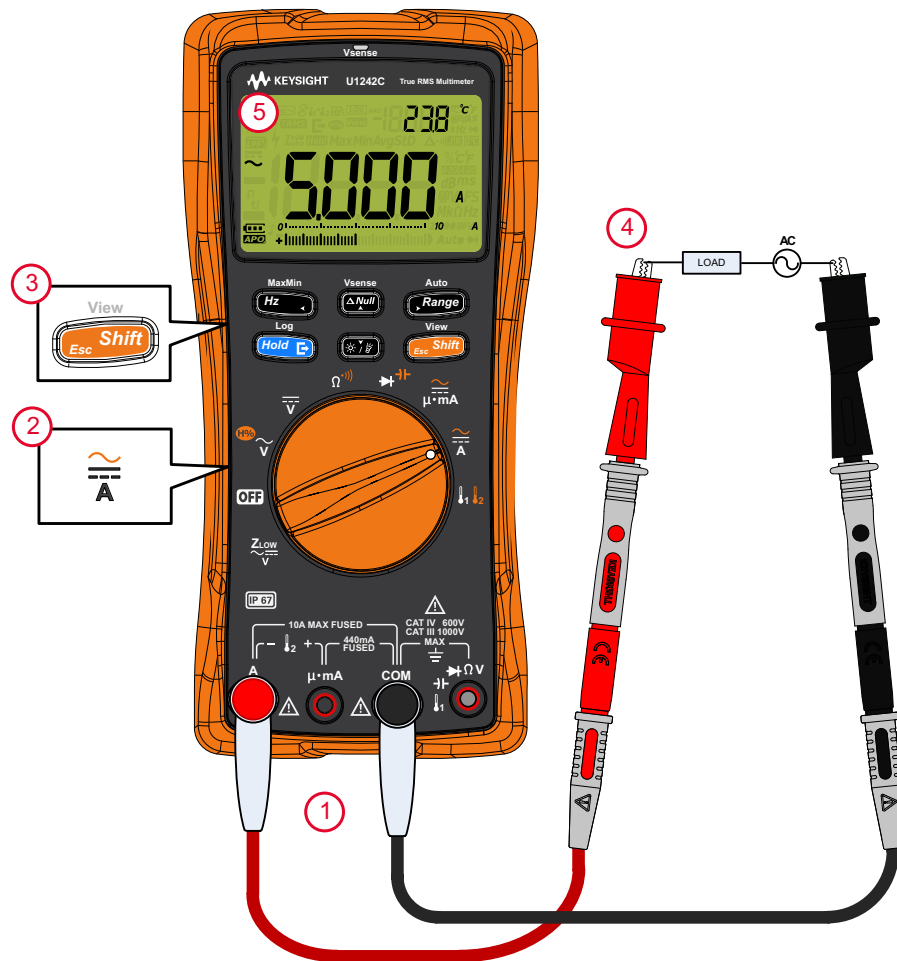
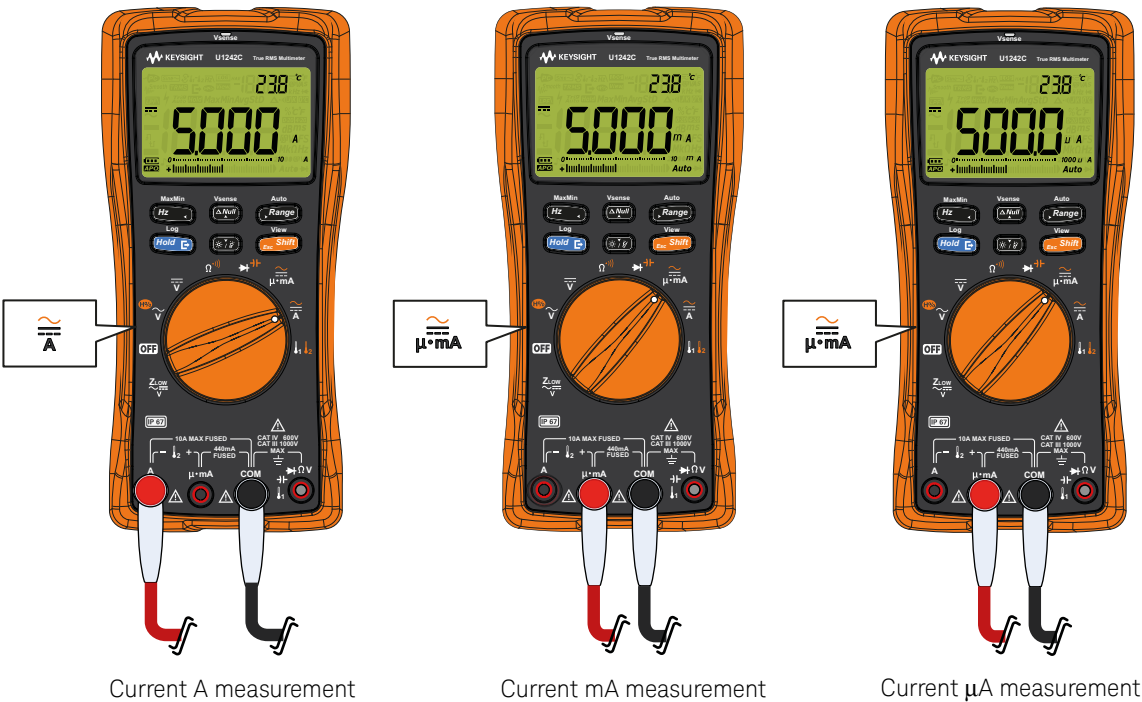

Figure 2-26 Measuring AC current
Figure 2-27 Current measurement setup
Set up your multimeter to measure AC or DC current as shown in **Figure 2-26** and **Figure 2-27**. Open the circuit path to be tested. Probe the test points and read the display.
- To avoid blowing the multimeter's 440 mA fuse, use the μmA terminal only if you are sure the current is $< 440\text{ mA}$. See **Figure 2-27** for test lead connections and function selection. Refer to the **Alerts and warnings during measurement** section for information on the alerts the multimeter uses for hazardous current or when leads are not used correctly during current measurement.